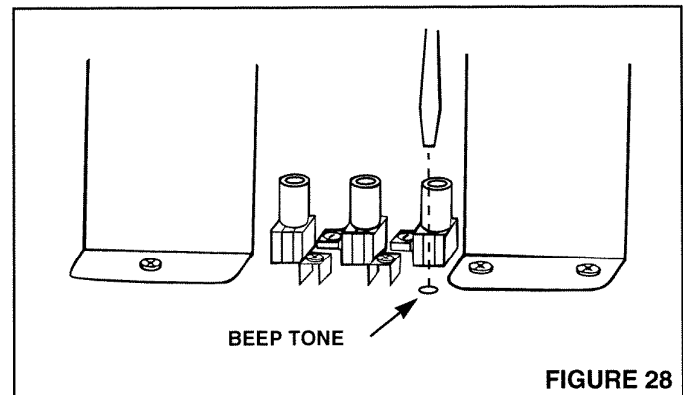

FIGURE 28
1. Refer to **Figure 28**. Using a thin-blade screwdriver, adjust the **BEEP TONE** volume control counter-clockwise as viewed from the rear of the master station panel to reduce the **BEEP** level.